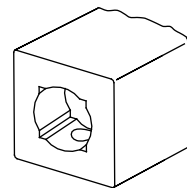

**FIGURE 2**
**2** Insert the Locator Pins (6K) into the round holes in the ends of Glass Shelf Frame (1) so that the points face out. The shoulders must be flush with the end of the Glass Shelf Frame. (see Figure 2)